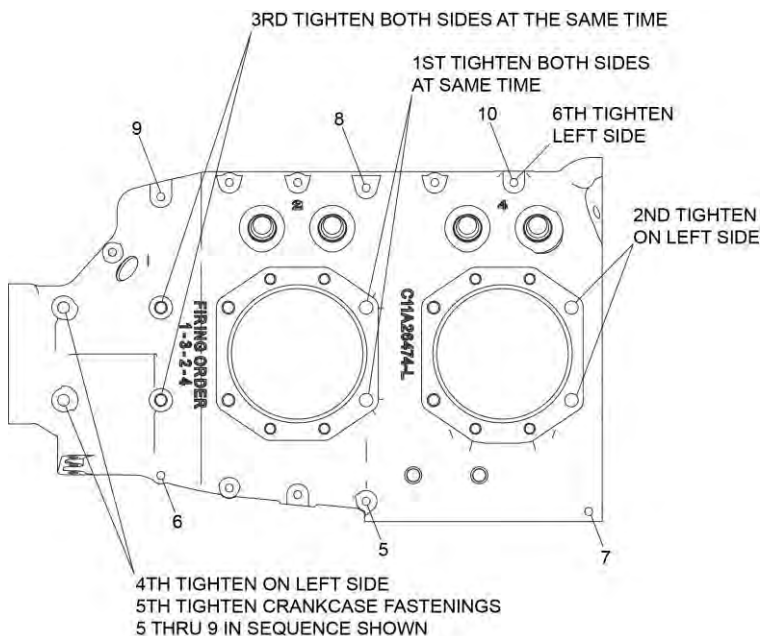

Figure 85
CAUTION: TO ENSURE CORRECT ASSEMBLY OF THE CRANKCASE HALVES, TO MINIMIZE THE POSSIBILITY OF THE SUBSEQUENT LOOSENING OF CYLINDER BASE NUTS, AND TO ENSURE A UNIFORM LOAD ON THE MAIN BEARINGS IN THE CRANKCASE, FOLLOW THE STEPS IN THE TORQUE SEQUENCE IN THE ORDER GIVEN IN FIGURE 85.
- (14) Install a nut (and spacer as required) on each thru-stud at the mating flanges on the crankcase halves in the sequence shown in Figure 85 to attach the crankcase halves securely.
NOTICE: To ensure uniform loading on the main bearings, immediately torque the nuts on the anchored thru-studs and the free thru-studs in sequence (Figure 85), beginning at the center of the crankcase and then progressing alternately to the rear and front of the engine.
- (15) Tighten the nuts on thru-studs (to maintain bearing pre-load) at the:
- (16) Torque the nuts in sequence at positions 1st, 2nd, and 3rd to 25 ft.-lb (34 Nm).
- (17) Re-torque the nuts in sequence at positions 1st, 2nd, and 3rd to 50 ft.-lb. (68 Nm).
- (18) Torque the front bolts at position 4 on the left side to 25 ft.-lb (34 Nm).
- (19) Torque the 1/4-in. nuts at positions 5 thru 10 (in the order shown in Figure 85) to 96 in.-lb. (11 Nm).
- (20) Torque the remaining crankcase fasteners as indicated in Table 5.
- (21) Make sure all fasteners on the crankcase are torqued correctly and none are loose.